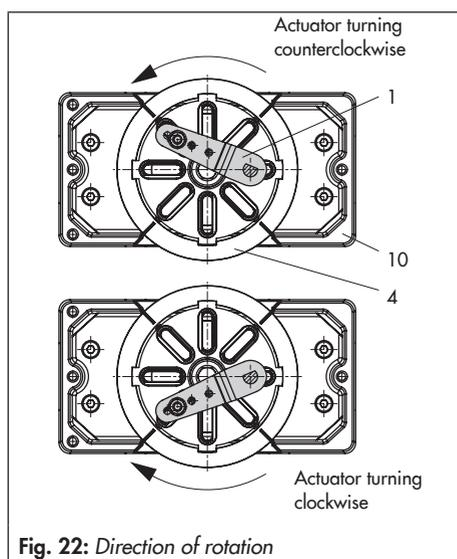

Fig. 22: Direction of rotation
2. Place coupling wheel (4) with flat side facing the actuator on the follower clamp (3). Refer to Fig. 22 to align slot so that it matches the direction of rotation when the valve is in its closed position.
3. Fasten the coupling wheel (4) and follower clamp (3) tightly onto the actuator shaft using screw (4.1) and disk spring (4.2).
4. Fasten the bottom pair of brackets (10.1) with the bends pointing either facing to the inside or to the outside (depending on the actuator size) onto the actuator housing. Position the top pair of brackets (10) and fasten.
5. Mount connecting plate (6) or pressure gauge bracket (7) with pressure gauges on the positioner, making sure the two seals are seated properly. Double-acting springless rotary actuators require the use of a reversing amplifier on the connection side of the positioner housing (see section 5.9).
6. Unscrew the standard follower pin (2) from the positioner's **M** lever (1). Use the metal follower pin (\varnothing 5 mm) included in the mounting kit and screw tight into the hole for pin position **90°**.
7. Place positioner on the top bracket (10) and fasten tight. Taking the actuator's direction of rotation into account, adjust lever (1) so that it engages in the slot of the coupling wheel (4) with its follower pin (Fig. 22). It must be guaranteed that the lever (1) is parallel to the long side of the positioner when the actuator is at half its angle of rotation.
- For **SAMSON** Type 3278 and **VETEC S160 Rotary Actuators**, fasten the adapter (5) onto the free end of the shaft and for **VETEC R Actuator**, place on the adapter (5.1). For **Type 3278, VETEC S160** and **VETEC R Actuators**, place on the adapter (3), for **VDI/VDE version**, only use the adapter when it is required due to the actuator size.
- Fasten coupling wheel (4) on the slotted actuator shaft or adapter (3) using screw (4.1) and disk spring (4.2).
- Unscrew the standard follower pin (2) from the positioner's M lever (1). Attach the follower pin ($\varnothing 5$ mm) included in the mounting kit to pin position 90° .
- Mount connecting plate (6) for required $G \frac{1}{4}$ connecting thread or pressure gauge bracket (7) with pressure gauges on the positioner, making sure the two seals (6.1) are seated properly. Double-acting springless rotary actuators require the use of a reversing amplifier on the connection side of the positioner housing (see section 5.9).
- Place positioner on housing (10) and screw it tight. Taking the actuator's direction of rotation into account, adjust lever (1) so that it engages in the correct slot with its follower pin (Fig. 22).